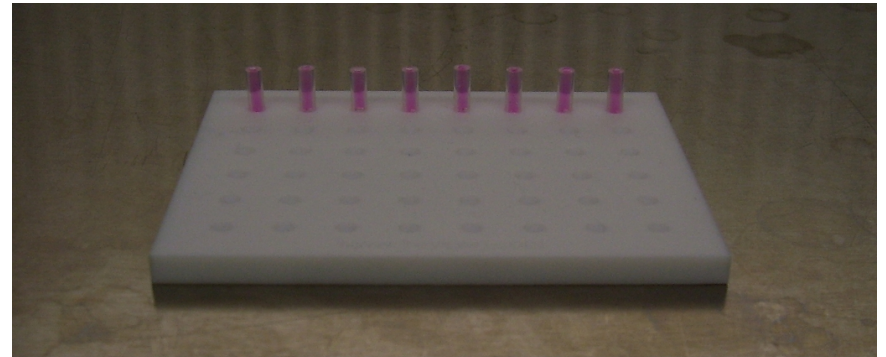

Figure 2. AngioRack™ containing filled angioreactors.
5. Prepare to fill angioreactors. Angioreactors must be kept chilled on ice prior to filling, whether inside microtubes or situated in an AngioRack™. Place angioreactors in the AngioRack™. Add 20  $\mu$ l of BME with or without modulating factors to each angioreactor using a pre-chilled, sterile gel-loading tip; see Figure 1. Be careful not to introduce bubbles into the angioreactor. One tube will fill eight angioreactors; see Figure 2.